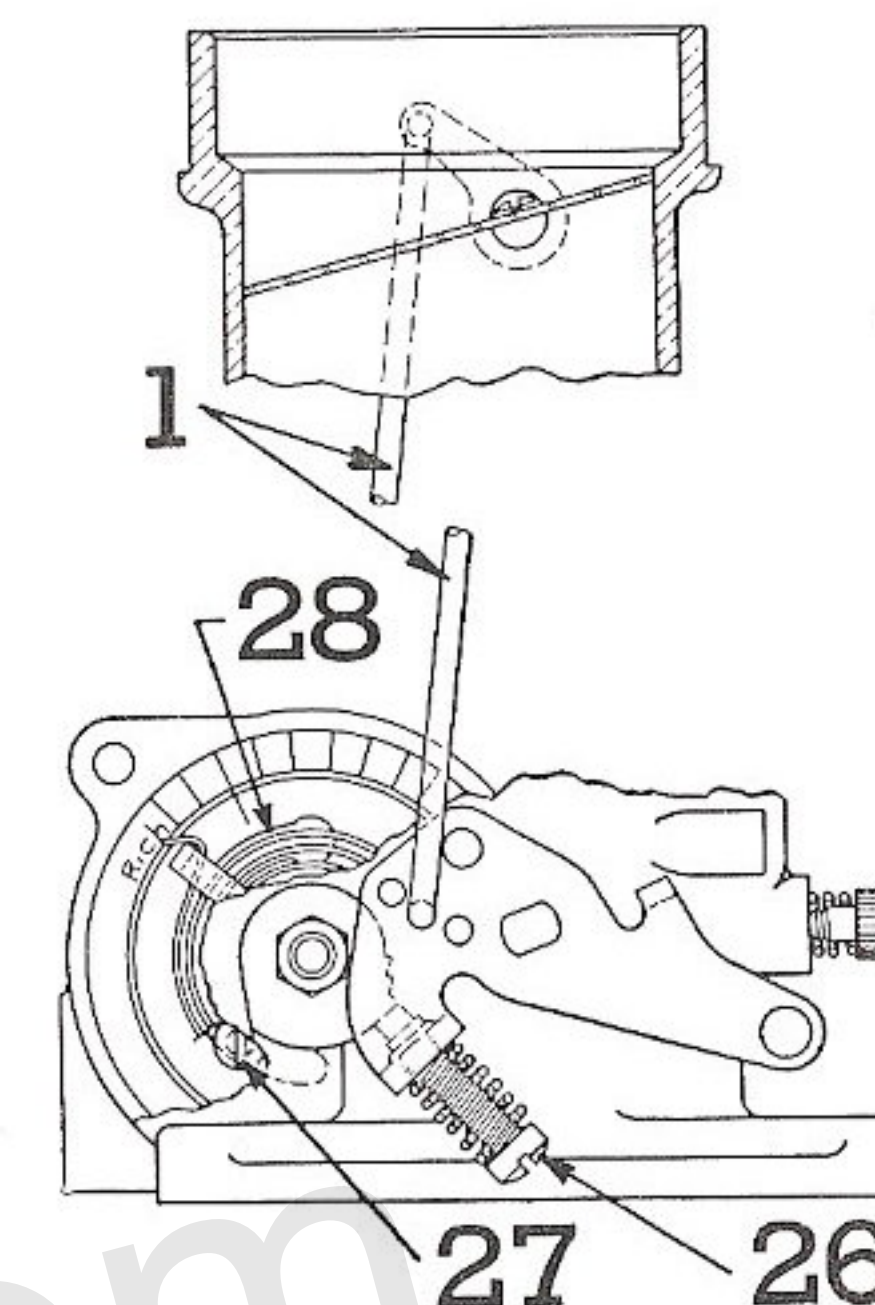

Fig. 10—Phantom View of Automatic Choke Thermostat, Valve and Linkage
1. Remove the thermostat assembly "28," Fig. 10 and test operation of choke valve. When closed by hand, it should drop open freely without the slightest lag. If it does not drop freely disconnect choke rod "1" at its upper end and repeat test. If choke still does not drop freely remove the choke valve and shaft and clean with alcohol or crocus cloth. Make sure that choke valve does not bind in air horn. Caution: Do not oil any part of the choke linkage.
3. Observe adjustment of thermostat spring. Factory adjustment is when the punch mark on plate is aligned with a similar mark on housing. If marks are not so aligned turn screw "27," Fig. 10, to secure this position.